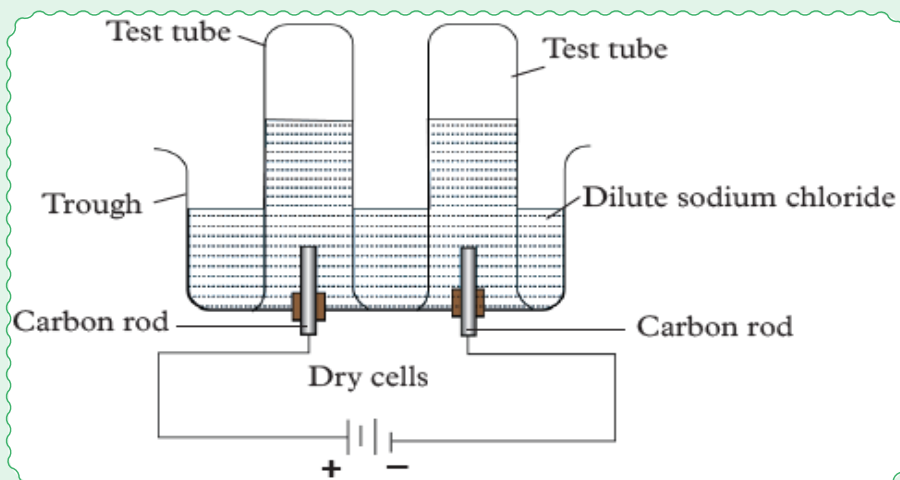

Figure 7.2.2: Electrolysis of dilute sodium chloride solution
- Set up the apparatus as shown in figure 7.2.2